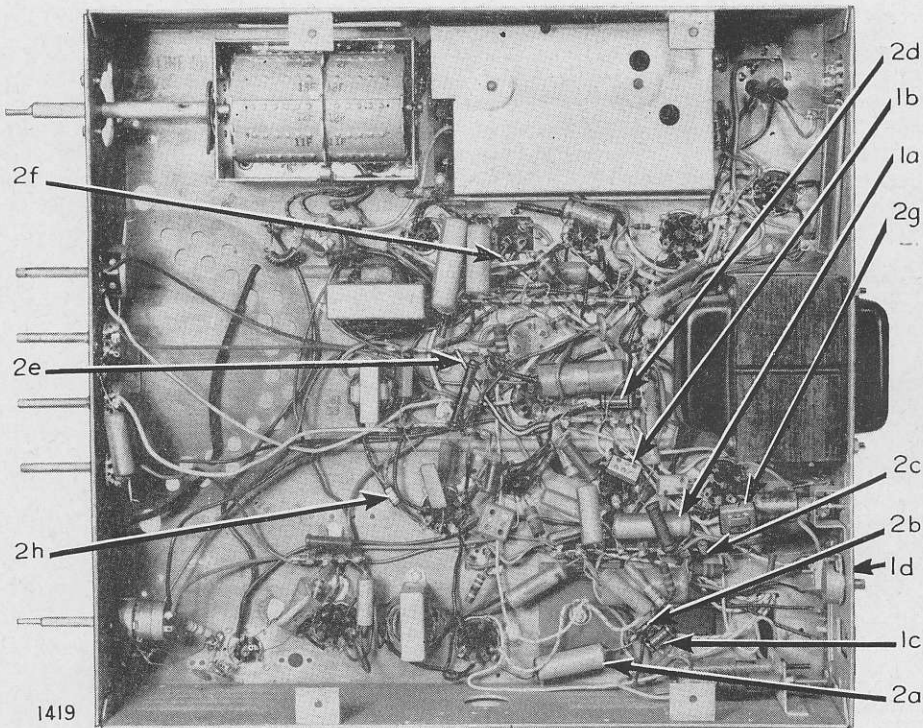

Figure 1. Bottom View of TV Chassis Before Installing Adapter-Converter, Showing Location of Parts to be Removed or Disconnected in Steps 1 and 2.
Installation of the Adapter-Converter sub-chassis is simple. No special tools are required other than an electric or hand drill, soldering iron, screwdriver, pliers and side cutters. Refer to the partial schematic figure 9, or figure 10 for 21D1 and 21E1 chassis, and to figures 1 thru 6. Note that components with symbol numbers lower than "25" (on the partial schematic) are contained in the Adapter-Converter sub-chassis. **IMPORTANT:** Before installing be sure that the receiver is operating normally to avoid difficulty later.
Step 1. Remove and discard the following parts from the TV chassis. Refer to figure 1. Note that the call-outs "1a, 1b, 1c, etc." in figure 1 indicate the location of parts to be removed. (If required, the circuit locations of C419 (C4) and R328 (R9) mentioned below can be found in figure 9, or in figure 10 for 21D1 or 21E1 chassis.)
Step 2. Disconnect (unsolder or clip) the following connections. Refer to figure 1. Note that the call-outs "2a, 2b, 2c, etc." in figure 1 indicate the location of wires or parts to be disconnected. Tube locations are given in figure 8. (If required, the circuit locations of the components mentioned below can be found in figure 9, or in figure 10 for 21D1 or 21E1 chassis.)